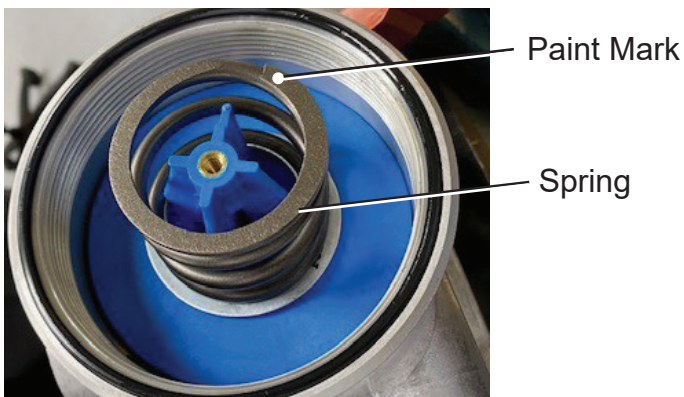

Figure 6 - Spring Installed
9. Install the provided spring. The new spring is marked with a white paint mark on each end. See Figure 6.